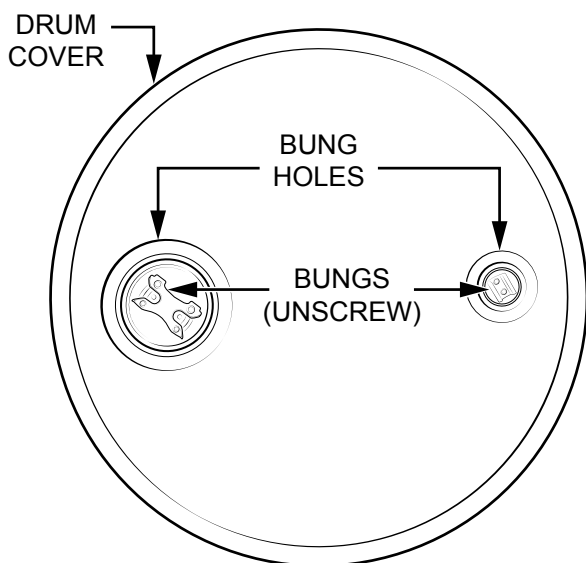

Figure 14. Open Supply Container
4. Locate the bung holes on top of the supply container(s). Break the bung hole cap seals (if necessary) and unscrew the bungs (plugs) to remove. See Figure 14.